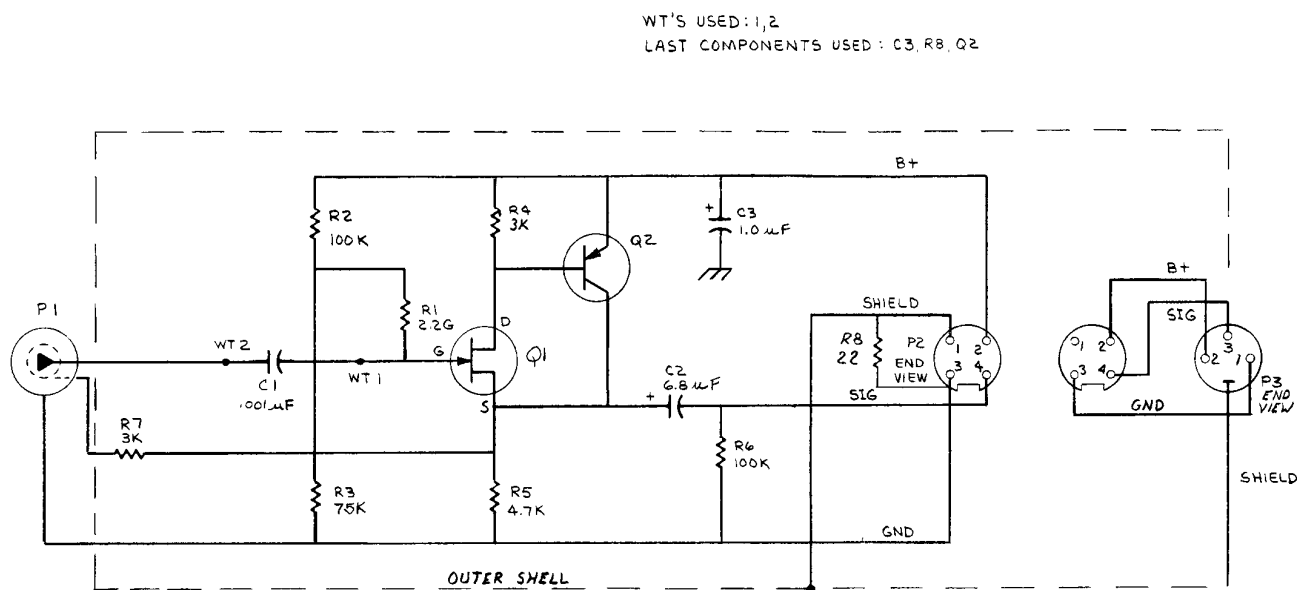

Figure 6-4. Schematic circuit diagram for the 1972-9600 Preamplifier/Adaptor.
An inexpensive interface between a GR ceramic or electret microphone and the measuring instrument is the 1972-9600 Preamplifier/Adaptor (Figure 6-1). This simple, easy-to-use preamplifier is designed to satisfy less-demanding requirements than those met by the 1560-P42 Preamplifier: It has reduced output voltage and current capabilities, offers only unity gain, and does not supply the polarizing voltage required to operate condenser microphones. In effect, the 1972-9600 serves as an impedance converter for ceramic microphones and vibration pickups. It provides a nominal input impedance of $2.2\text{ G}\Omega$ in parallel with less than 3 pF . It has an output impedance of approximately $10\text{ }\Omega$. The schematic diagram is given in Figure 6-4.
- c. The voltage at the FET (Q1) source should be half the supply voltage plus a few tenths of a volt, as shown in Table 6-1. If it is not, the FET or Q2 or a related component is probably defective. Do not measure the gate voltage on Q1 (high impedance). The voltage at TP1, Figure 6-4, should be half of the supply voltage.